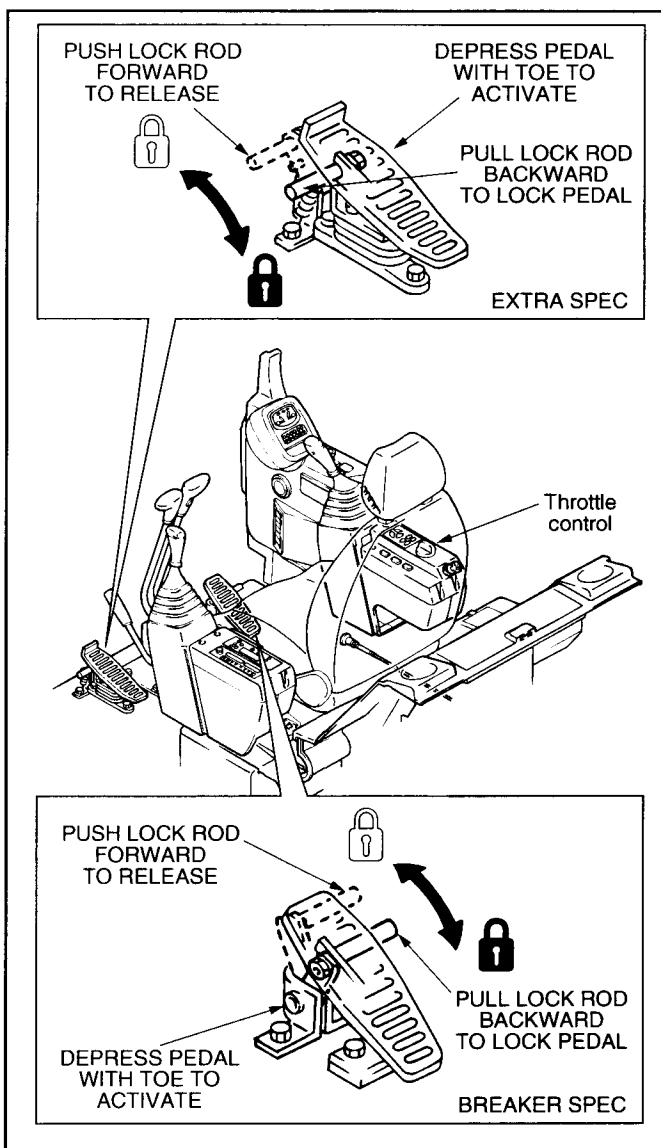

FIGURE 8.18
5. Place Right foot on pedal and depress with toe to close attachment and depress back of pedal with heel to open attachment. See Figure 8.18.
6. After operation is complete or operator is required to leave the machine, place pedal lock rod in the locked position, See Figure 8.18, position attachment in hydraulic oil check position, move throttle control to "LO" idle position.
For machine provided in extra & breaker specification, before starting operating, unlock left control pedal. See Figure 8.18.